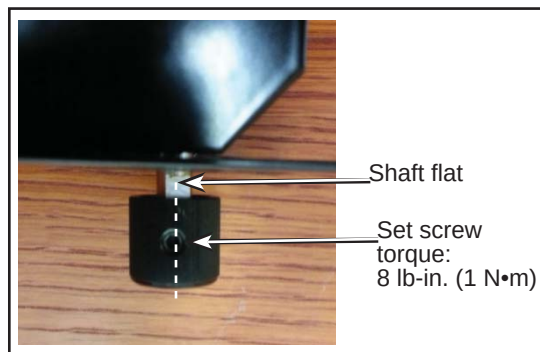

Figure 3 - Knob Set Screw Alignment with Temperature Control Shaft Flat
- 1.7. Place the new knob N8901007 on the temperature control shaft, with the set screw aligned with the shaft flat. See Figure 3. The knob indicator mark should point to the maximum cold setting (located at the 7 o'clock position). If not aligned, remove the knob and loosen the shaft jam nut. Rotate the potentiometer to realign and retry.
- 1.8. Torque the temperature control knob set screw to the specified value. See Figure 3.